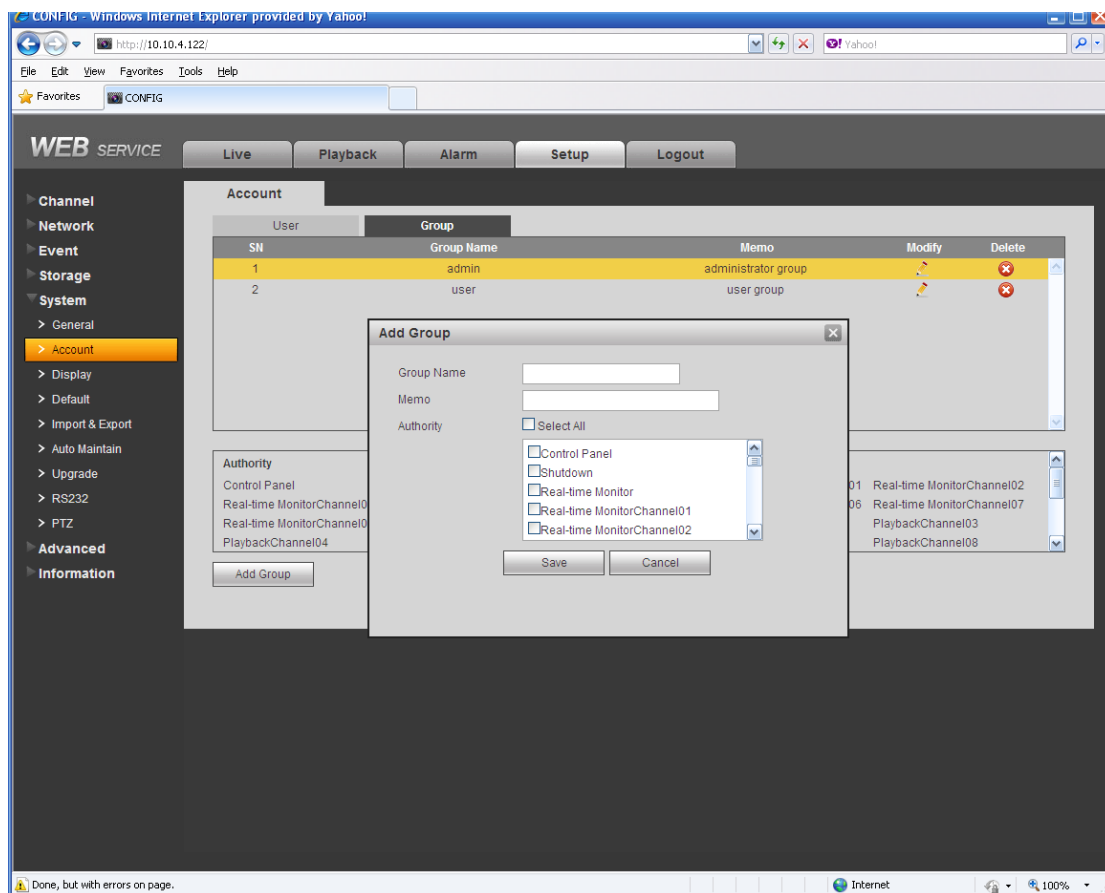

Figure 7-82
**Add group:** It is to add group and set its corresponding rights. See Figure 7-82.